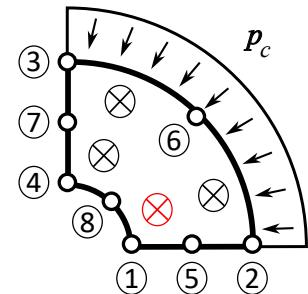

Fig. 2.4: Element with Load
- 2.2) Compute the reduced global stiffness matrix K_{red}^{global} of the system corresponding to all unknown degrees of freedom and considering symmetry. Use 4 GAUSS points for the 8-noded element (see \times in fig. 2.4).
- 2.5) Compute the stress at the GAUSS Point marked in red in fig. 2.4.